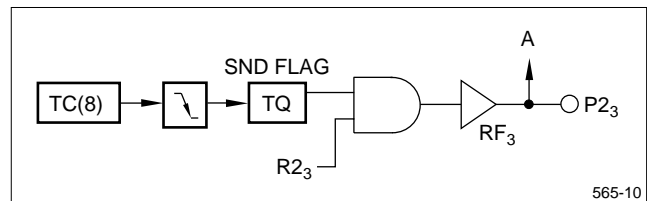

Figure 8. SND Signal
The count pulse Cp can be selected from divider signals  $f_{1n}$  and  $f_0$ , and the system clock, by using the mode register RD. If the count register (TC) overflows, the SND flag reverses its status at the falling edge of the TC. A sound signal can be obtained at the TC output by putting P2 in output mode and sending a '1' to pin P23 (see Figure 8).